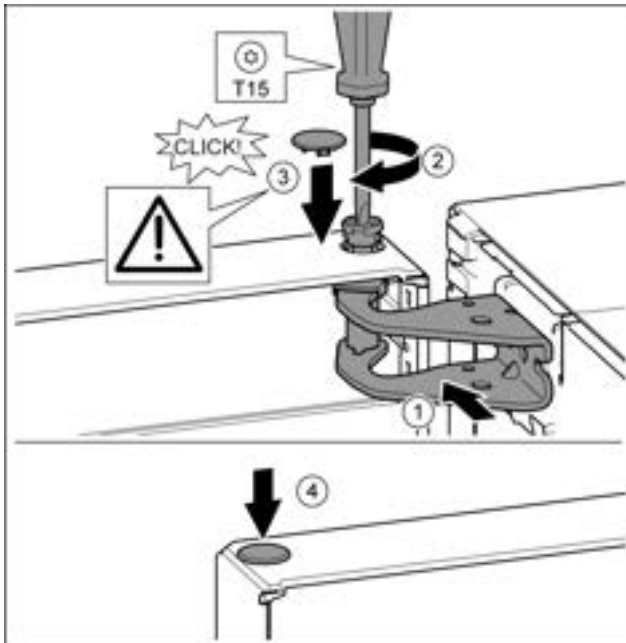

Fig. 21
- ▶ Align the top of the door with opening in the bearing bracket. Fig. 21 (1)
- ▶ Insert the bolt and tighten with a T15 screwdriver. Fig. 21 (2)
- ▶ Fit the protective cover to protect the door: Insert the protective cover and check that it is attached to the door. If not, insert the bolt fully. Fig. 21 (3)
- ▶ Insert the plugs. Fig. 21 (4)